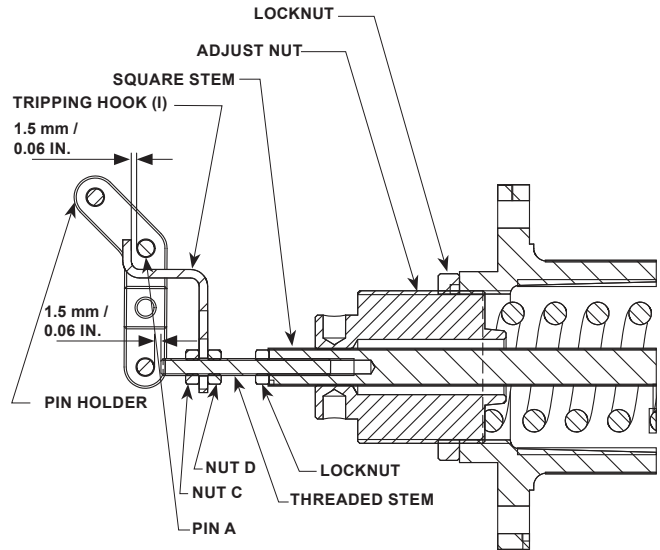

Figure 10. Type BMS1 Construction
- Release or exhaust the pressure of the BMS, then screw in the adjust nut. Compress the spring until the distance between the threaded stem and pin B does not increase. See Figure 10.